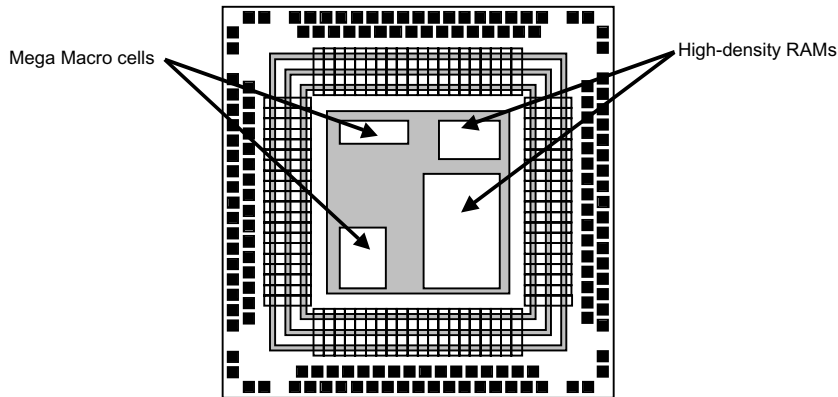

Figure 2. Optimized Memory Macrocell Floor Plan
- Using Oki CAD software, Design Center engineers remove the SOG transistors and replace them with diffused memory macrocells to the customer's specifications *Figure 2* shows an array base after placement of the optimized memory macrocells.